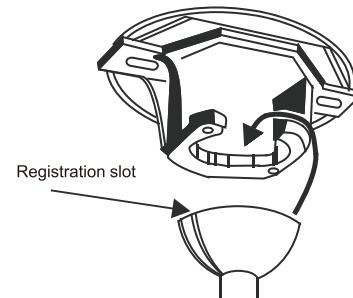

Fig. 7
Step 7. Place downrod ball into the hanger bracket socket (**Fig 7**).
Rotate the entire assembly until the "Check Tab" has dropped into the "Registration Slot" and seats firmly. (**Fig. 7**)